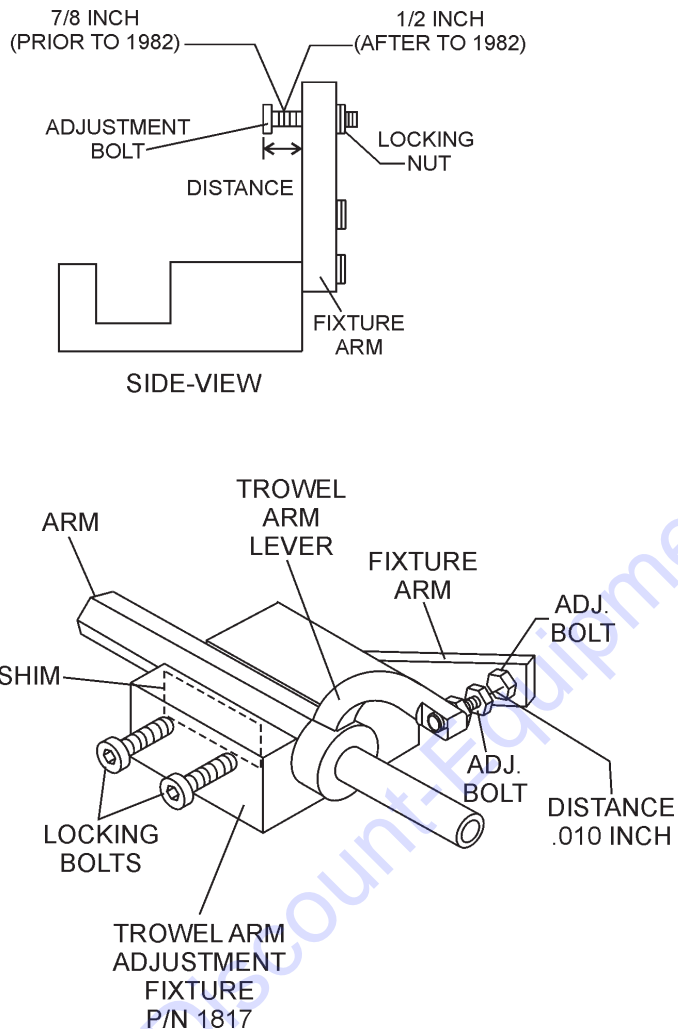

Figure 26. Trowel Arm Adjustment Tool
Shown in Figure 26 is the adjustment fixture with a trowel arm inserted. As each trowel arm is locked into the fixture, the arm bolt is adjusted to where it contacts a stop on the fixture. This will consistently adjust all of the trowel arms, keeping the finisher as flat and evenly pitched as possible.
2. Trowels manufactured prior to June of 1982 require that the distance from the end of the adjusting bolt and the fixture arm must be 7/8" (Figure 26). Conversely, trowels manufactured after June of 1982 require that the distance from the end of the adjusting bolt and the fixture arm must be 1/2".